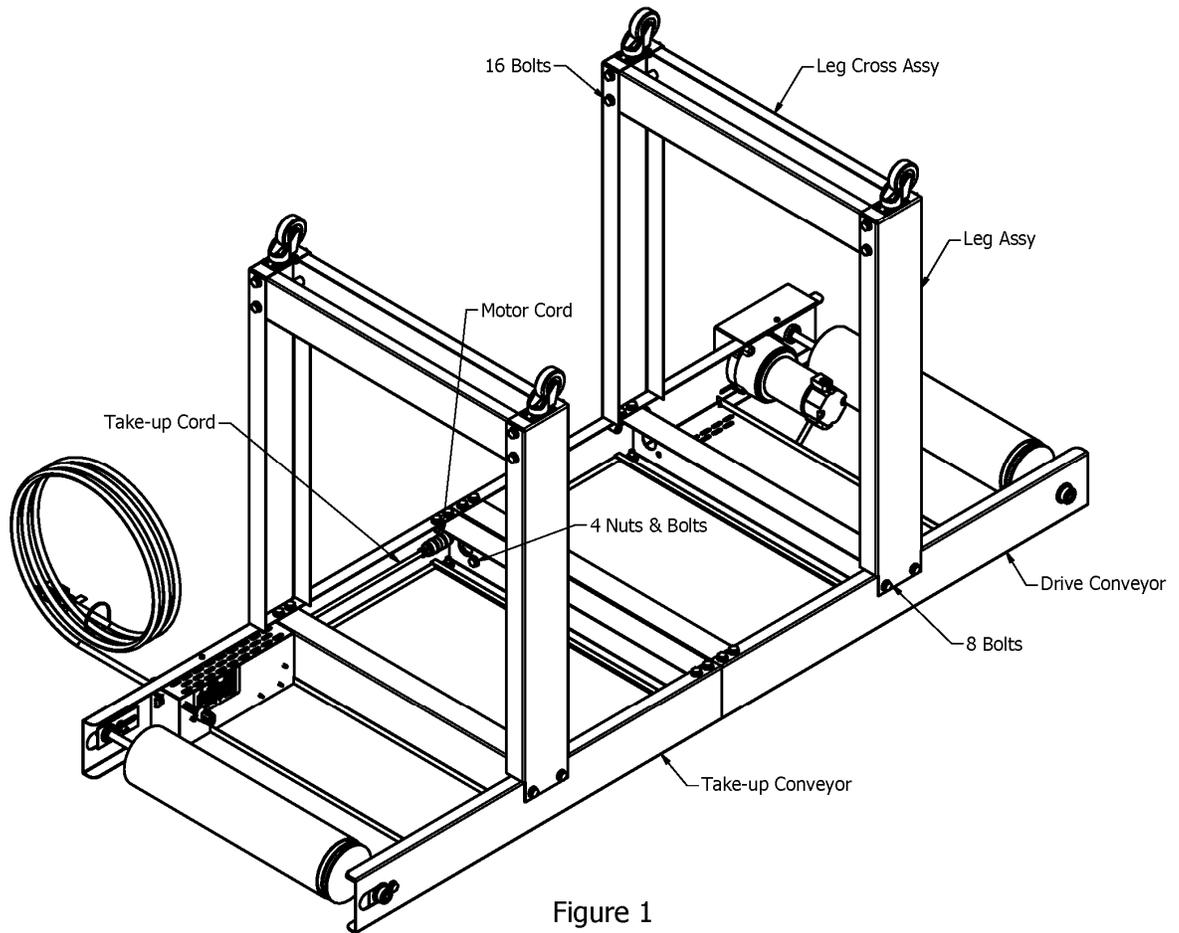

Figure 1
1. Place the Conveyor Drive Assembly on the covered floor.(see Fig. 1)
7. Install 4 legs with 8 bolts from step 5. Leave bolts loose. (see Fig. 1).